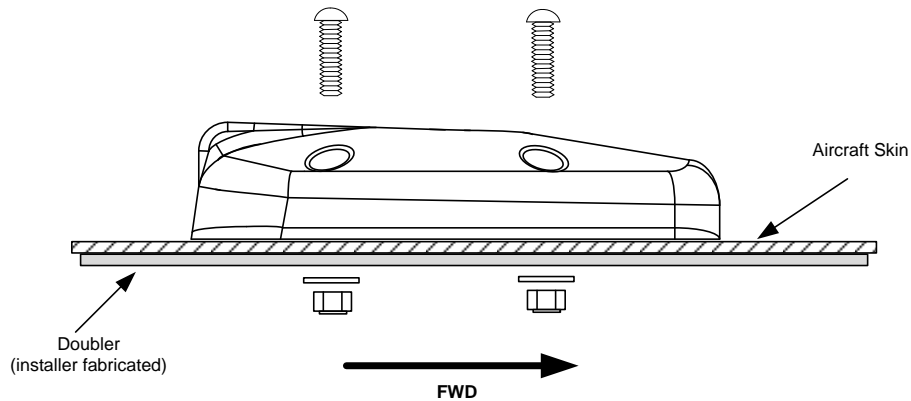

Figure 6-22: RSM Mounting
- 6) Mask around the four (4) mounting holes the diameter of the mounting washers or 1/2" on the down side of the doubler (see Figure 6-22). Prime that side with epoxy primer per MIL-P-23377. Do not prime the side that faces the aircraft skin. This allows for a doubler to aircraft skin bond and mounting washer to doubler bond.